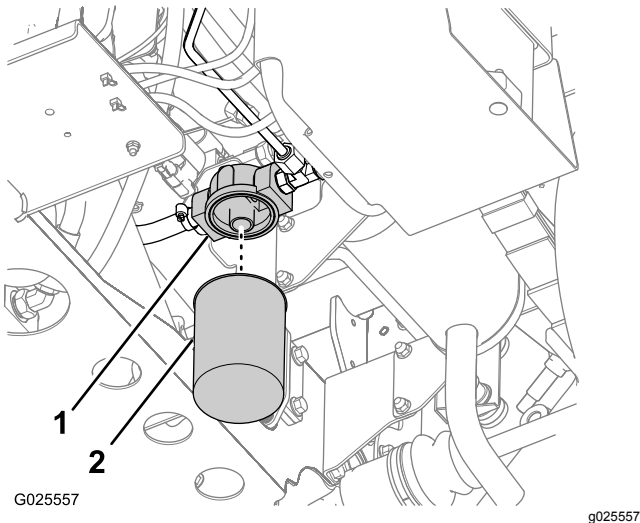

Figure 81
2. Clean the area around filter-mounting area (Figure 81).
3. Place a drain pan under the filter (Figure 81).
4. Remove the filter by rotating it counterclockwise (Figure 81).
5. Clean the filter-seating surface of the filter adapter (Figure 81).
7. Thread the filter onto the filter adapter until the gasket of the filter contacts the seating surface of the adapter (Figure 81), and then tighten the filter an additional 1/2 turn (Figure 81).